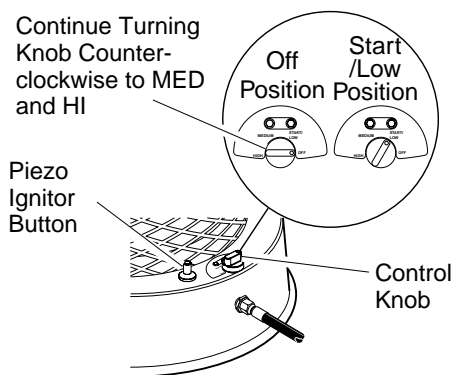

Figure 5 - Control Knob and Piezo Ignitor Button Locations for Propane Model TC100VR
5. Slightly depress and turn control knob counterclockwise to the LOW position (see Figure 5 or 6).
8. When burner remains lit, set heater at the desired heat level by slightly depressing the control knob and turning it counterclockwise to the MED or HIGH settings (see Figure 5 or 6). *Note:* The emitter glows red on the HIGH setting only.